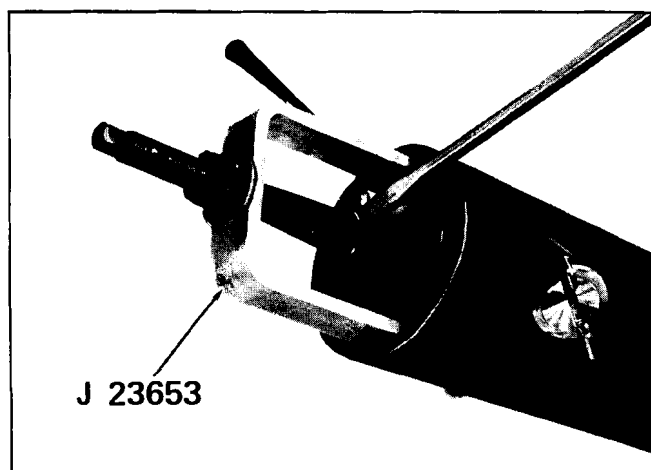
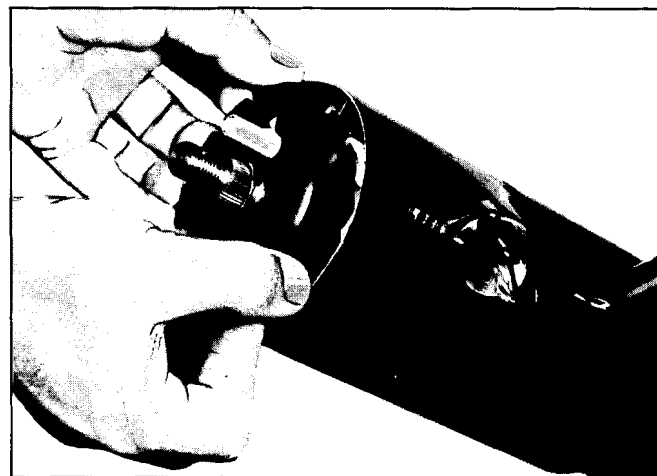

Fig. 9-22 Depressing Lock Plate and Removing Snap Ring
Fig. 9-23 Removing Snap Ring and Lock Plate
3. Depress lock plate downward as far as possible using J 23653. Pry the round wire snap ring out of the shaft groove (Fig. 9-22). Remove the snap ring and lock plate (Fig. 9-23). Discard snap ring.